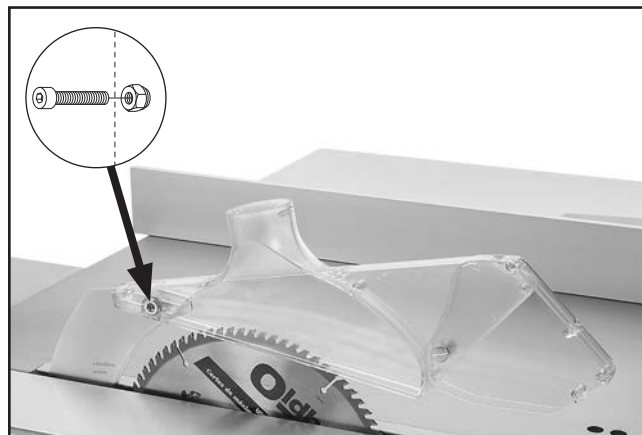

Figure 53. Blade guard installed onto splitter.
52. If you installed splitter/riving knife earlier—instead of riving knife—raise main blade all the way up, and attach blade guard with (1) M10-1.5 x 25 cap screw and (1) M10-1.5 lock nut, as shown in **Figure 53**.